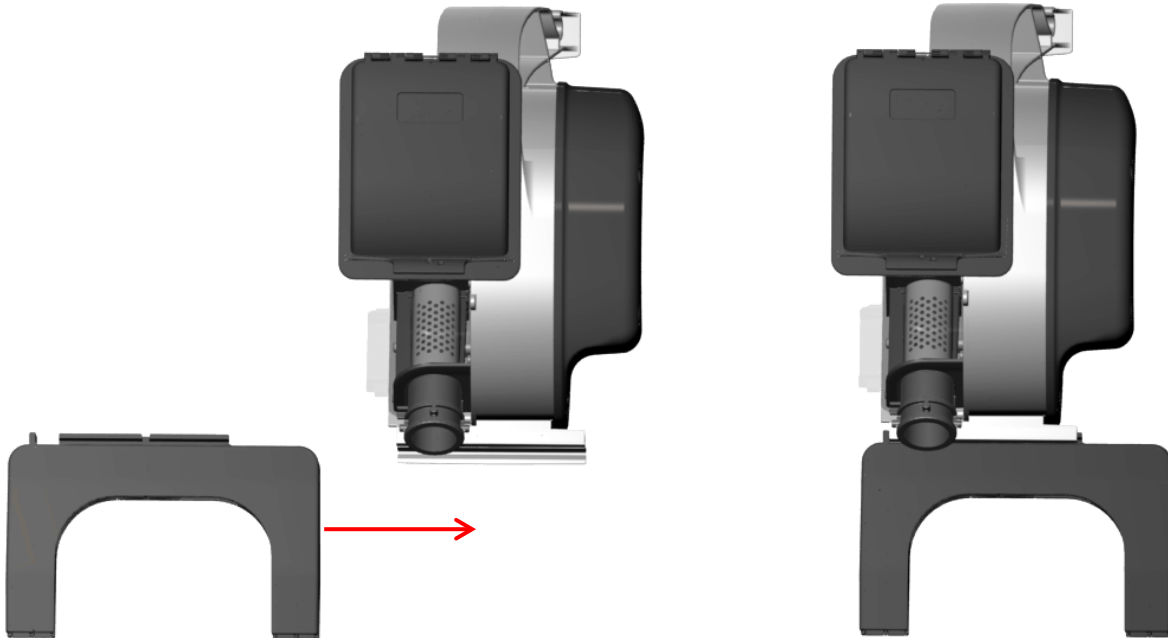

Figure 2 – Spanner Bracket Installation
- b) Orient the mini hopper sub-assembly as shown in figure 2. Align the spanner bracket with the grooves on the front of the mini hopper and slide the spanner bracket onto the mini hopper until the locking tab engages. A rubber mallet should be used to fully install the spanner bracket. Refer to figure 2.